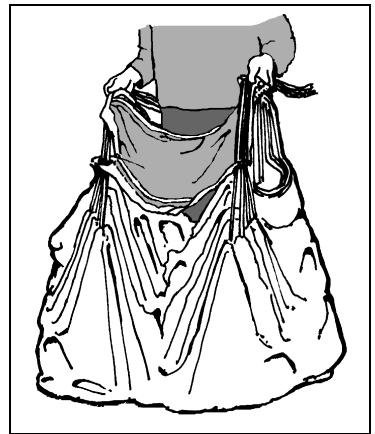

Figure 4.
Step 6.) With the harness/container system secured, apply tension to the lines, and step between the right and left line groups and grasp the right line groups in the right hand and the left line groups in the left hand. Push the slider toward the canopy, and walk forward. Pick up the canopy by the suspension lines and allow it to hang downward (See Figure 4.) Push the slider up as far as it will go until each slider grommet comes to its respective slider stop.